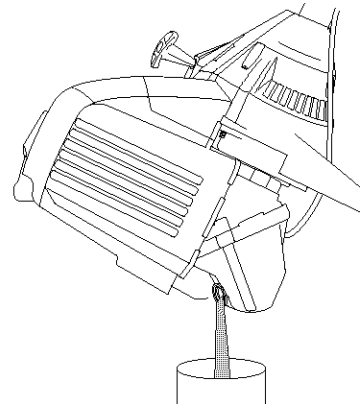

Fig. 33
3. Pour the oil out of the oil fill hole and into a container by tipping the unit to a vertical position (Fig. 33). Allow ample time for complete drainage.